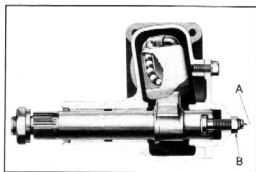

Fig. 2—Lash Adjustment
3. Loosen the lock nut "B" (Fig. 2) and turn the lash adjuster "A" a few turns in a counter-clockwise direction. This removes from worm bearings the load imposed by close meshing of rack and sector teeth. Turn steering wheel gently in one direction until stopped by gear, then back away about one turn.
7. After proper adjustment of worm is obtained, and all mounting bolts securely tightened, adjust lash adjuster "A" (Fig. 2). First turn the steering wheel gently from one stop all the way to the other, carefully counting the total number of turns. Then turn wheel back exactly half way, to center position. Mark wheel at top or bottom center with a piece of tape. Turn lash adjuster "A" (Fig. 2) clockwise to take out all lash in gear teeth, and tighten lock nut "B." Check pull at wheel rim with checking scale as before, taking the highest reading of the checking scale as the wheel is turned through center position. This should be between 2 and 2½ pounds. Readjust, if necessary, to obtain proper pull. Tighten lock nut "B" and recheck pull, as it must lie between the specified limits after the lock nut is tightened.